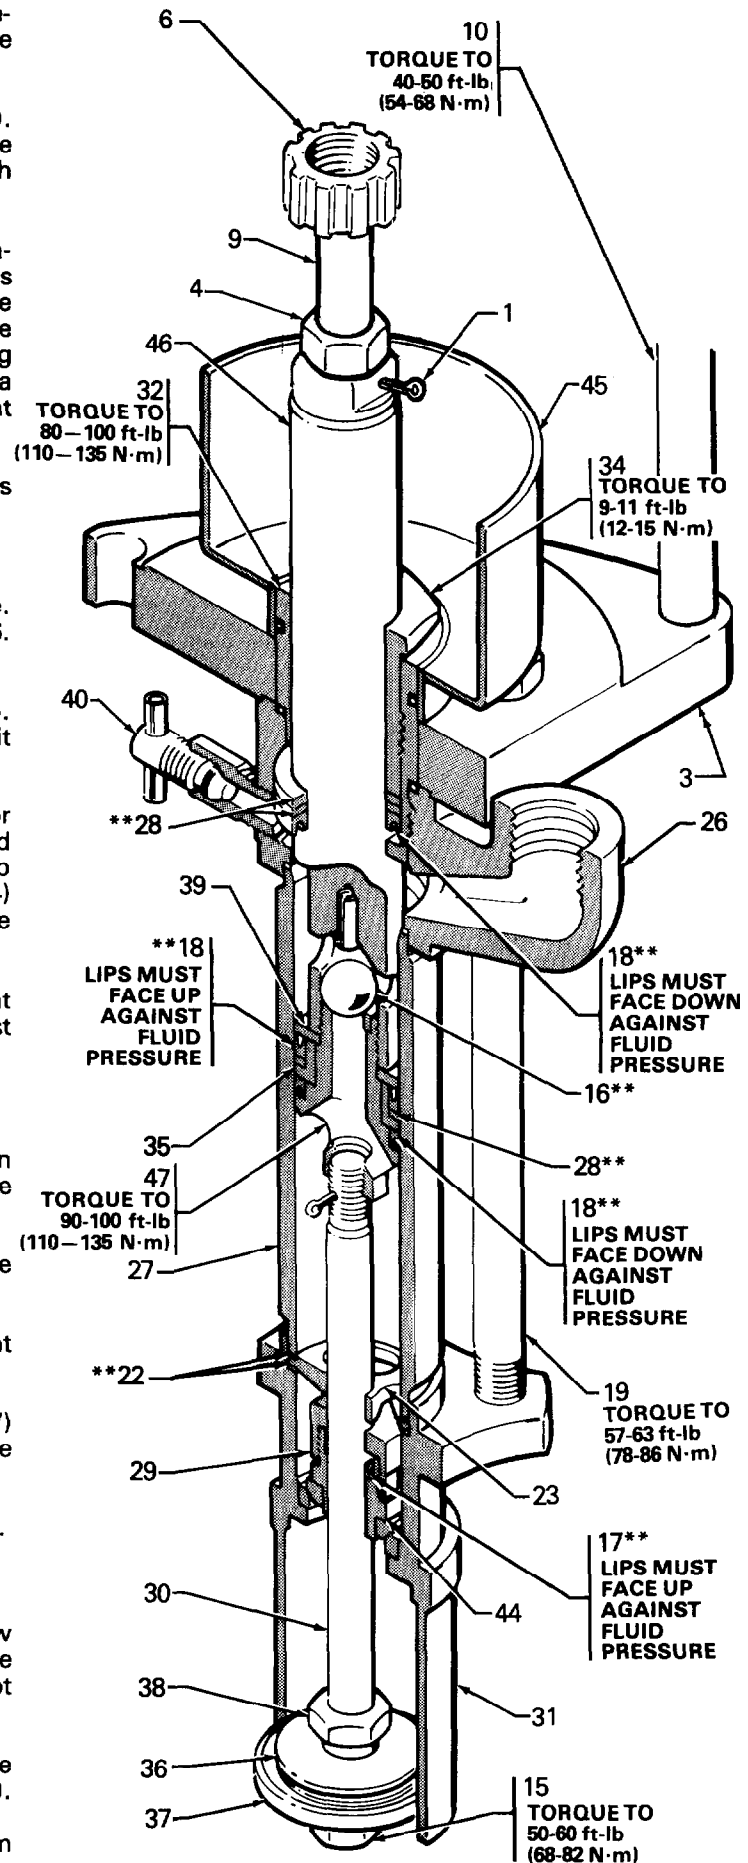

Fig 2
- Detach the displacement pump from the air motor by unscrewing the coupling nut (6) and the tie rod locknuts (3). Remove the cotter pin (1) from the top of the displacement rod (46). Loosen the jam nut (4) and unscrew the connecting rod (9) from the displacement rod. See Fig 2.
- Unscrew the tie bolts (19). Secure the displacement pump in a vise so the outlet housing (26) is against one vise jaw.
- Remove the packing nut (34).
- Push the displacement rod down until the piston assembly on the priming rod (30) clears the intake housing (31).
- Remove the jam nut (15), piston plate (37), valve plate (36) and valve plate guide (38).
- Pull the priming rod (30), intake valve, piston (47) and displacement rod (46) from the bottom of the cylinder (27).
- Remove the cotter pin (14) from the piston. Unscrew the priming rod (30) from the piston. Unscrew the piston from the displacement rod (46). Be careful not to drop or damage the steel ball (16\*\*).
- Disassemble the piston assembly, removing the washers (39, 28\*\*), packings (18\*\*) and spacer (35).